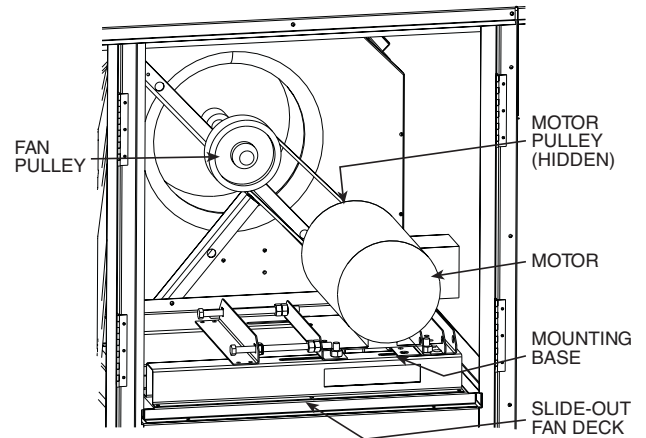

Fig. 28 — Evaporator-Fan Motor Adjustment
- Remove three no. 10 screws at front of slide-out fan deck. Save screws. See Fig. 28.
Evaporator Fan Performance Adjustment (Fig. 28 and 29) — Fan motor pulleys are factory set for speed shown in Table 17.
- Move motor mounting plate to adjust to proper belt tension. See Table 20. Motor adjuster bolts may be used to tighten belts. See Fig. 28.